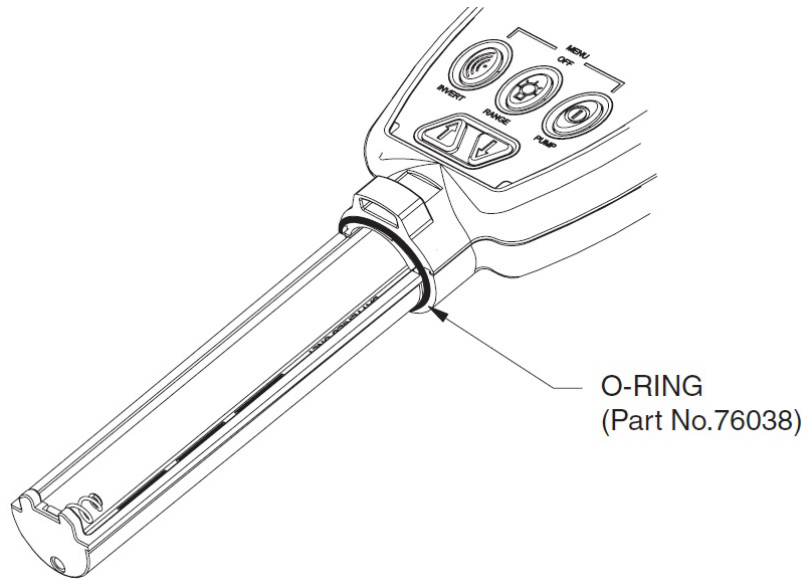

Figure 33: O-Ring Replacement
6. Check the O-ring (Figure 33: O-Ring Replacement) for damage and replace if necessary.